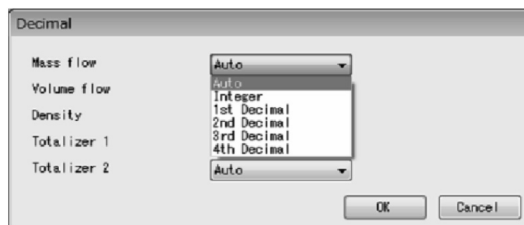

Fig.85
- ③ Click the triangle on the right side of each item as shown in Fig. 85, and select the decimal points to set from the drop-down lists.